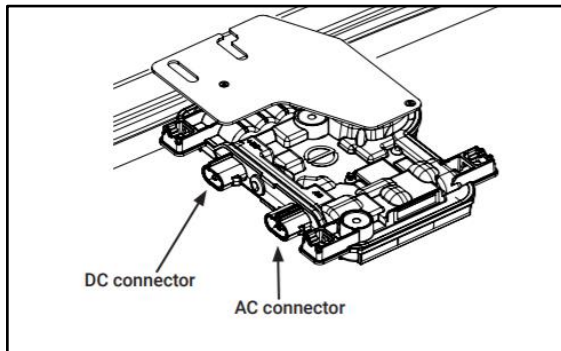

Figure 4: Rail Mount Bracket
- Consider using Enphase Microinverter Frame Mounts to support frameless mounting solutions (refer to Figure 4). A frame attach solution makes installation (mounting) easier on the panel itself. When using the Enphase Frame Mount, support the Q Cable to keep it off the roof by attaching it to the module frames using module edge wire clips that work with PV cable and USE-2 cable. Refer Appendix A.